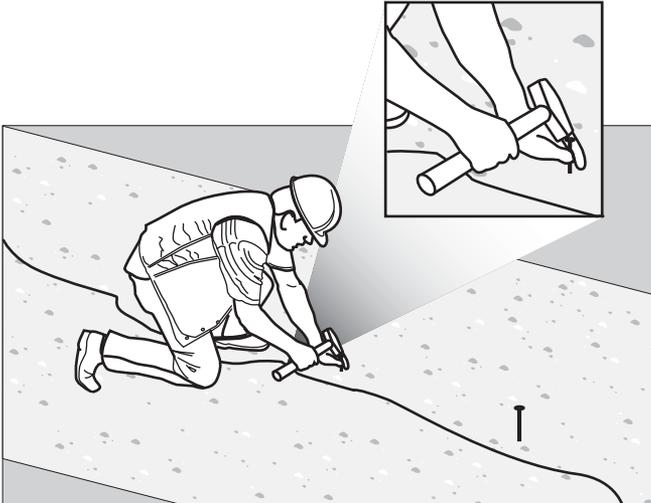

Figure 3-3. Setup Concrete Nails
1. Drive a concrete nail into the existing surface to be cut (Figure 3-3) and tie the stringline to the concrete nail.